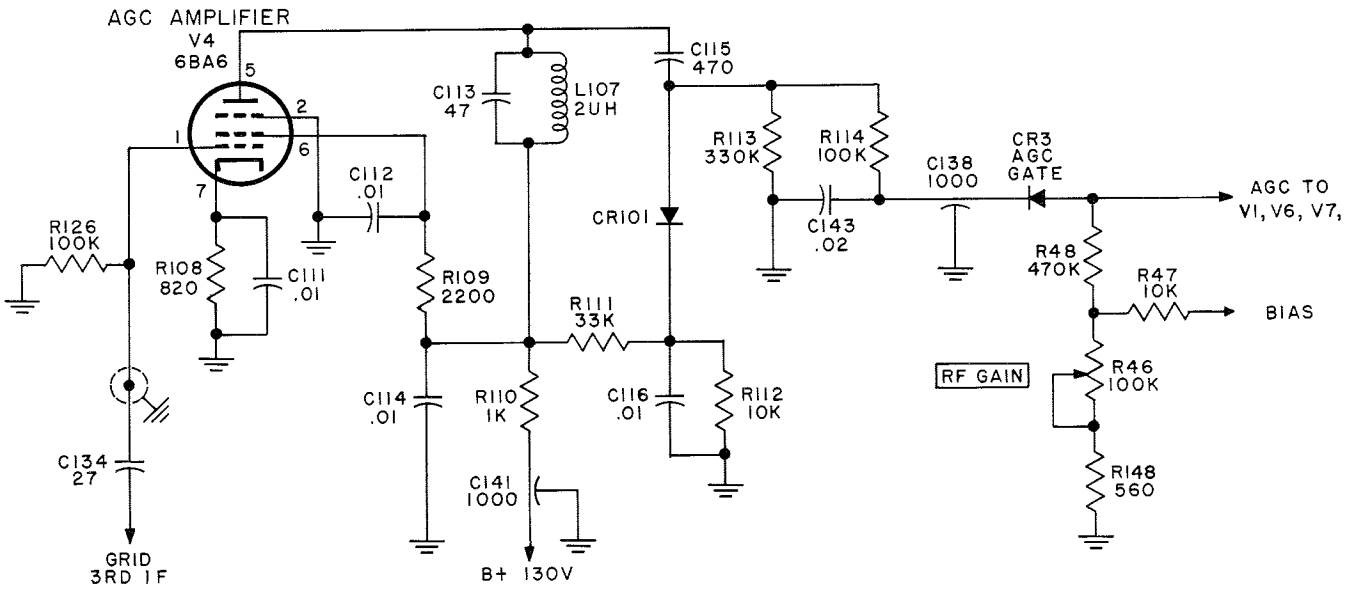

Figure 4-9. Simplified Schematic Diagram, AGC Amplifier Circuits
4. 2. 10 AGC AMPLIFIER CIRCUITS. (See figure 4-9.)